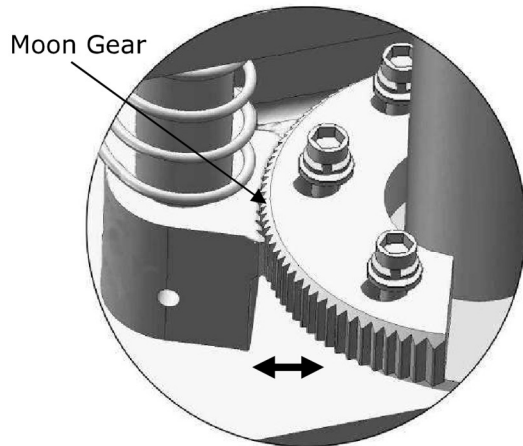

Fig. 34
3. Adjust the arm lock as direction of arrow (**See Fig. 34**)